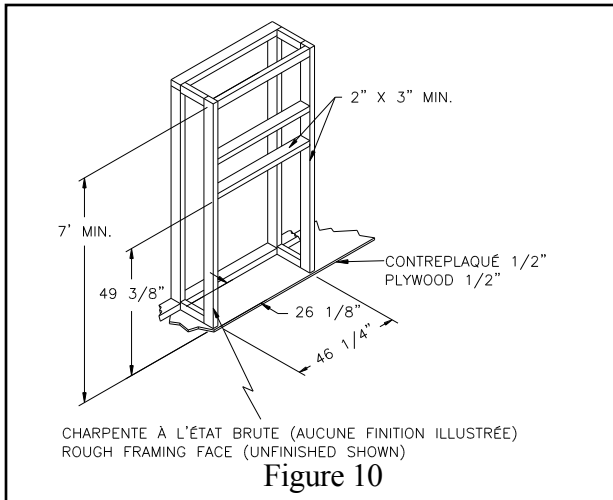

Figure 10
- C. Frame the fireplace with vertical studs at the sides of the fireplace running from floor to ceiling (see figure 10). If combustible facing is to be used, position the studs back, from the front edge of the fireplace the thickness of the facing material so that the facing can be installed flush with the fireplace facing. Frame headers between the vertical studs only as follows: